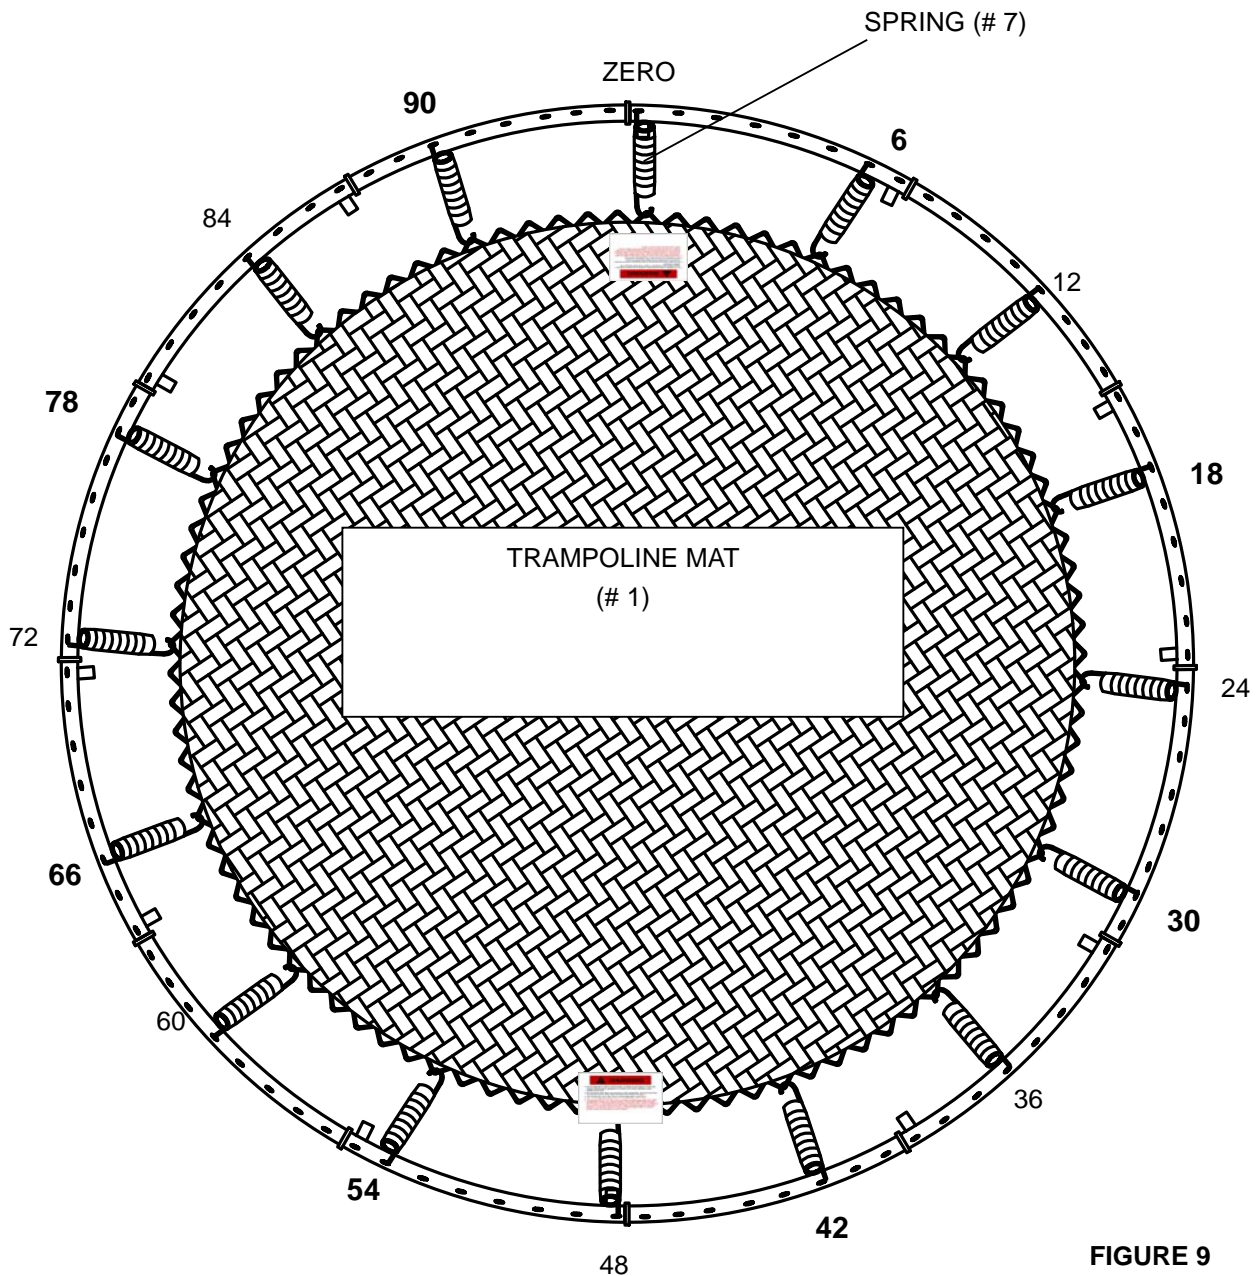

FIGURE 9
- E. Attach a spring every 6 holes and corresponding Triangle-Ring. For even distribution of tension and ease of assembly, springs should be placed on opposite sides of the mat/frame.....i.e. 6 then 54, 78 then 30, etc. In addition to the previously installed, you should have springs at 6, 18, 30, 42, 54, 66, 78 and 90 as shown in FIGURE 9.